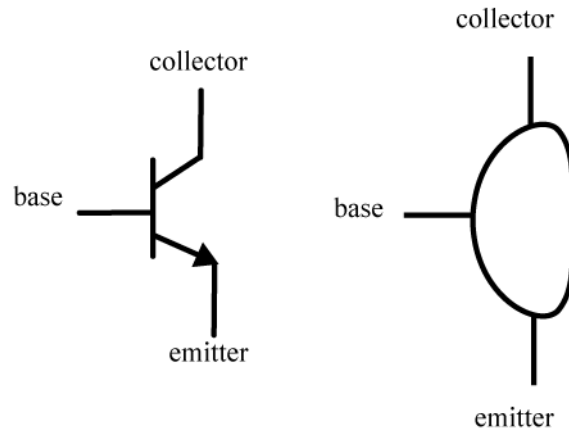

Figure 4. Circuit symbol for an npn BJT (left) and physical device (right).
1) The npn BJT is represented by the symbol shown in Figure 4, and it has three terminals. If you hold the BJT with the flat part to the right, then the collector is on top, the base is in the middle, and the emitter is on the bottom.